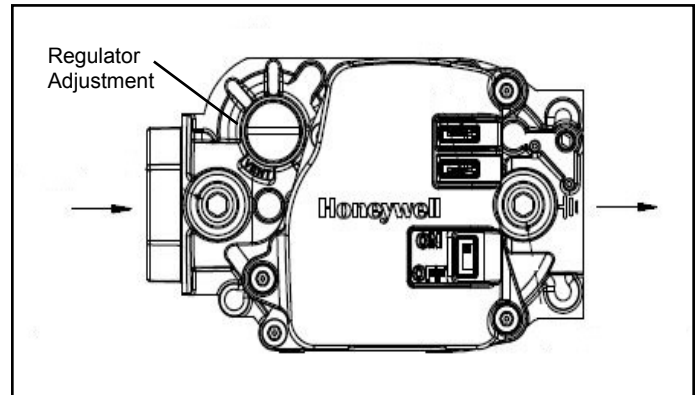

Figure 7. Gas Valve
3. Slide the gas valve switch to the "ON" position (see Figure 7).
2. Slide the gas valve switch to the "OFF" position (see Figure 7).
manifold pressure vary more than 0.3" w.c. from the above specified pressures. To adjust the regulator, turn the adjusting screw on the regulator clockwise to increase pressure and input or counterclockwise to decrease pressure and input. See Figure 7 to assist in locating the regulator on the gas valve.
1. Slide the gas valve switch to the "OFF" position (see Figure 7).